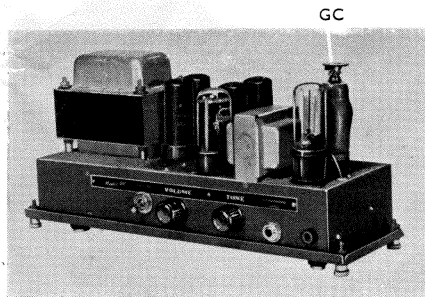

Figure 22
- (c) Grid clip not attached to the cap on the top of the 6J7GT valve. (See GC, Figure 22.)